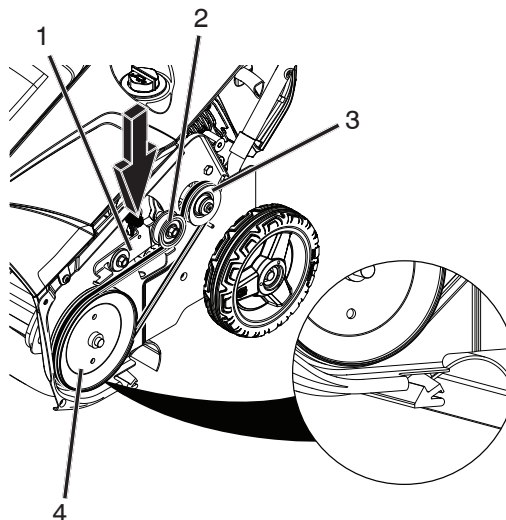

Figure 33
4. Install the new auger V-belt and drive pulley, routing it as shown in Figure 33.
**NOTE:** Route the new auger v-belt first around the engine pulley, then the idler pulley, and finally around the drive pulley while pressing down on the front of the idler arm. (Figure 33).